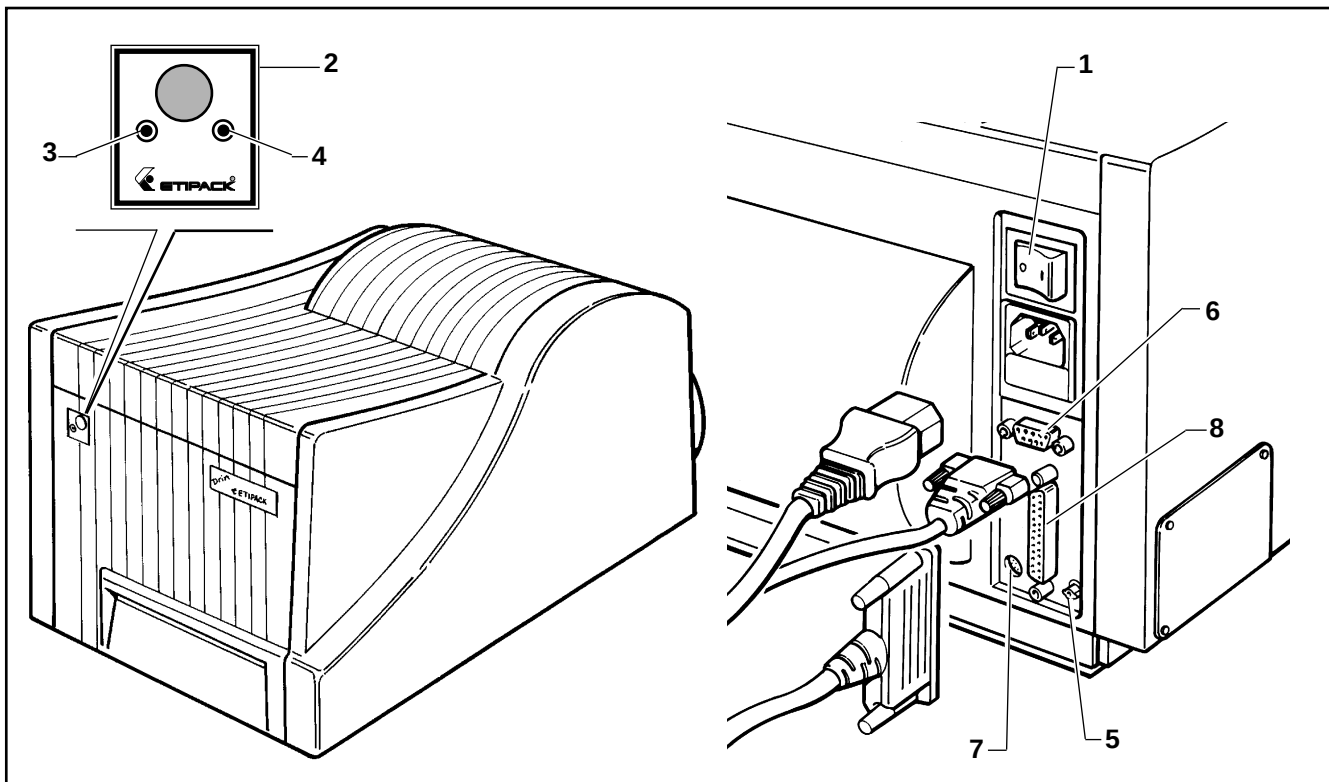

Fig. 7 PANNELLO COMANDI
2.3 PANNELLO COMANDI (Fig. 7)
- **PULSANTE 0/I (1)**
2.3 CONTROL PANEL (Fig. 7)
- **PUSH-BUTTON 0/I (1)**